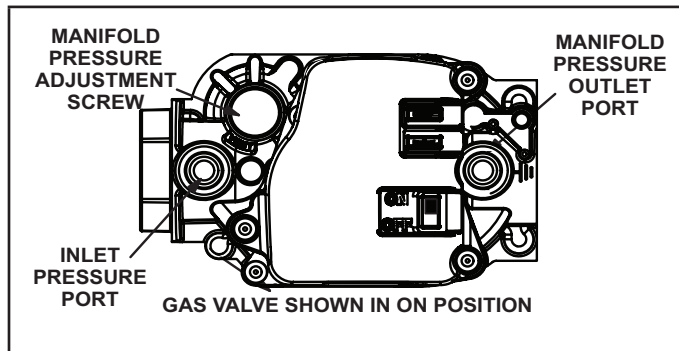

FIGURE 20
- 6 - Move gas valve switch to OFF position. Do not force. See FIGURE 20.
- 8 - Move gas valve switch to ON position. Do not force. See FIGURE 20.
- 4 - Move gas valve switch to OFF position. Do not force. See FIGURE 20.